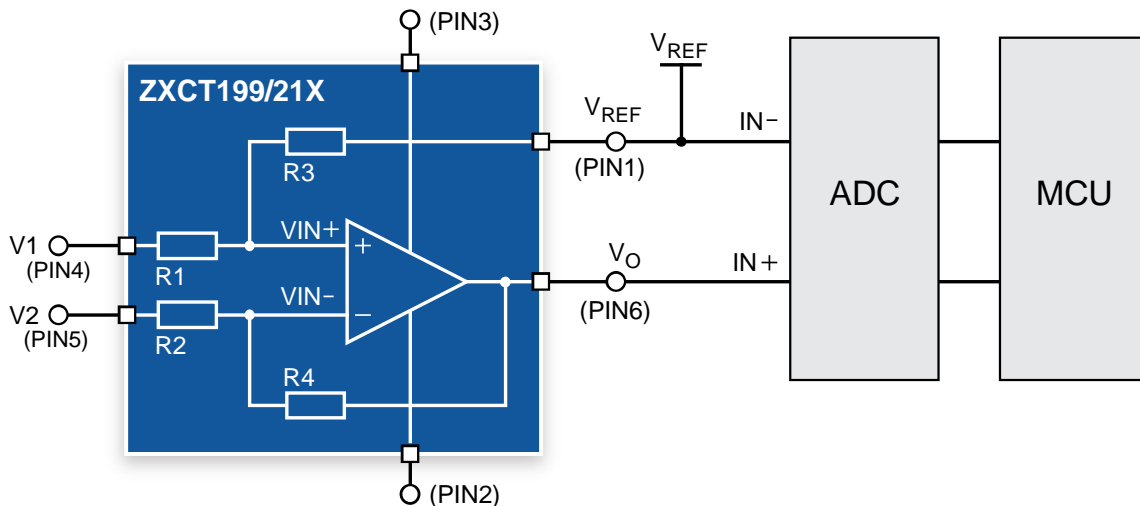
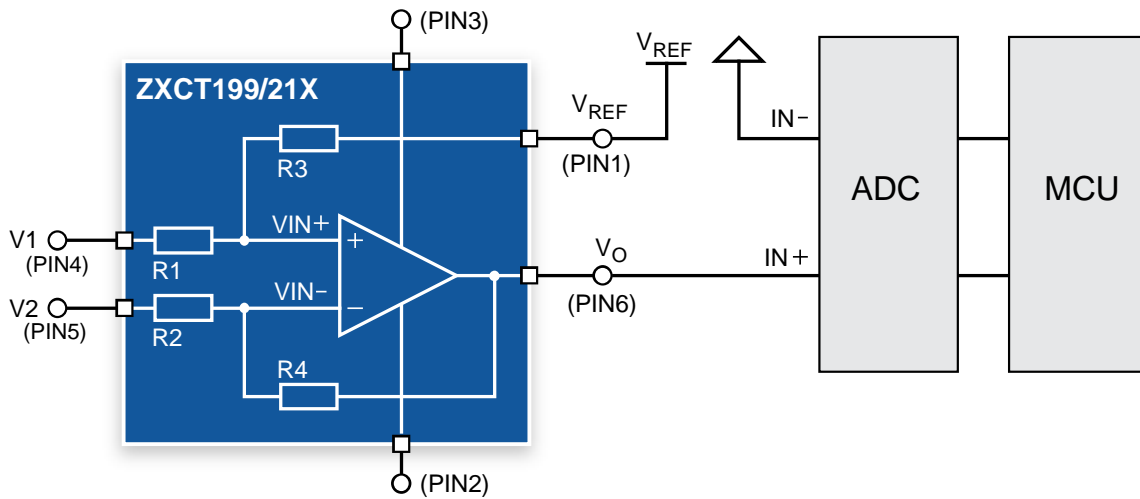

Figure 4a. Recommended application circuit
Figure 4b. Recommended application circuit
In common applications, the circuit shown in Figure 4a is often used, while the circuit shown in Figure 4b is less common. In Figure 4a, the ADC's in-pin is connected to the microcontroller's (MCU's) ground pin. This circuit has the advantage that the ADC input voltage is always equal to $(V1.0 - V2.0) \times \text{gain}$, regardless of how the V_{REF} pin is connected. This means that only one measurement is needed to obtain the desired data, which reduces the workload of the ADC and MCU and improves efficiency. In contrast, the circuit shown in Figure 4b requires the measured data to be subtracted from V_{REF} , and this V_{REF} value must either be set in advance or measured separately. This increases the workload of the MCU.
- For the fourth item, the error can be improved by using Figure 4a (automatically tracks V_{REF} , ignoring the impact of V_{REF} deviation) or Figure 5b (reduces the impact of device input resistance).